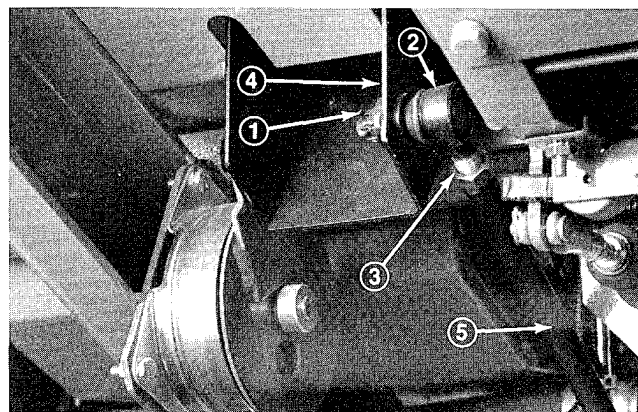

Figure 73
2. Remove cotter pin and slotted nut from ball joint at traction pedal (Fig. 73). Disconnect ball joint from traction pedal.